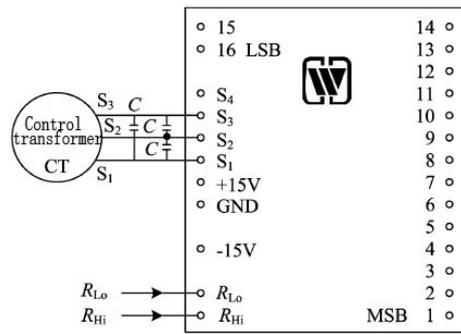

Fig. 4 Connection diagram for typical application
**6. Connection diagram for typical application (Fig. 4)**